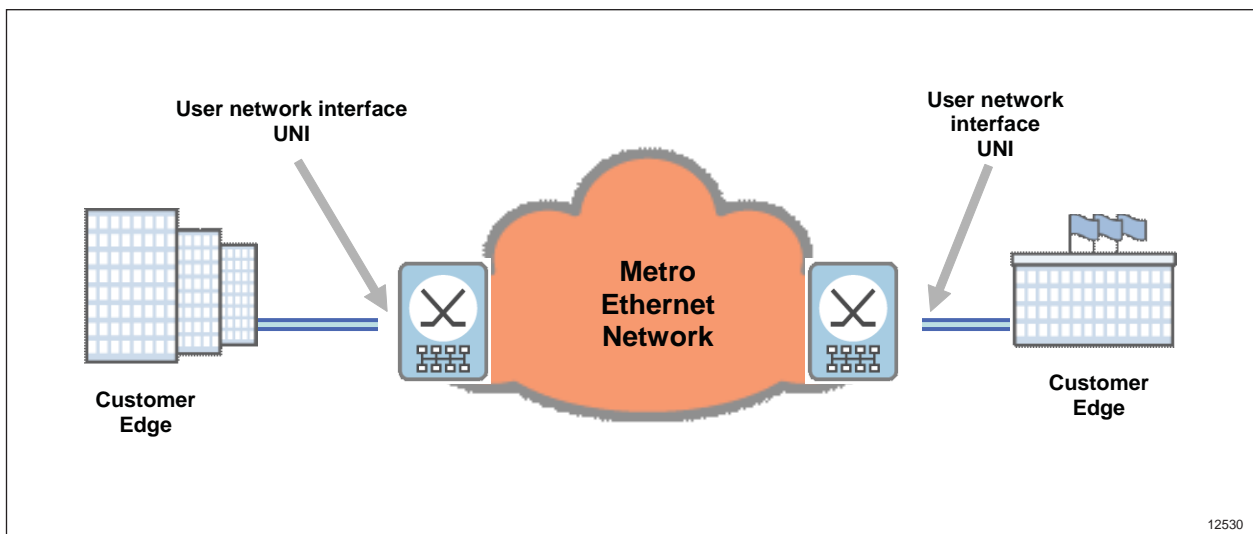

Figure 37 Ethernet Service Model
Figure 37 shows a basic model for Ethernet services. The Ethernet service is provided by Metro Ethernet Network (MEN) provider. The Customer Edge (CE) and MEN exchange service frames across the User Network Interface (UNI).